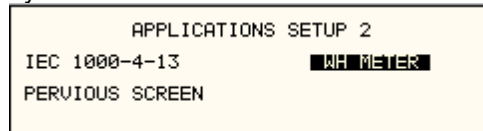

Figure 8-32: Application Screen
- From the Menu screen 2, select the APPLICATIONS SETUP 2 screen. The screen will appear as shown in Figure 8-32. Use the up and down key to position the cursor to the WH METER field. Press the Enter Key.